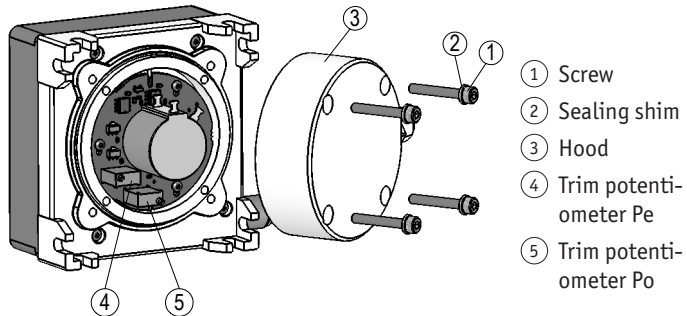

Fig. 13: Setting up the trim potentiometers MWI
Setting the instrument transformer (Fig. 13)
Via two trim potentiometers Pe (4) and Po (5) (see Fig. 13), these values can be adjusted to the application's actual start and end position.
1. Undo screws (1) with sealing shims (2) and open the hood (3).
2. Adjust the trim potentiometers Pe (4) and Po (5), see alignment.
3. Close the hood (3) and fasten with sealing shims (2) and screws (1).